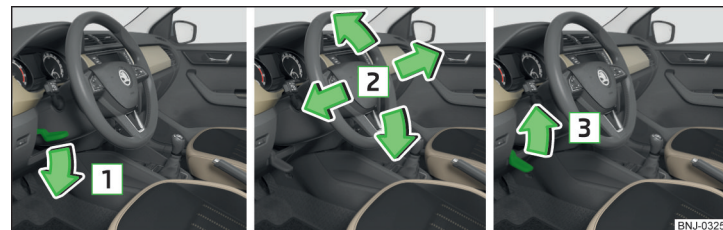

Fig. 16 Adjusting the steering wheel position
- Turn the safety lever beneath the steering wheel towards the arrow 1 » Fig. 16.